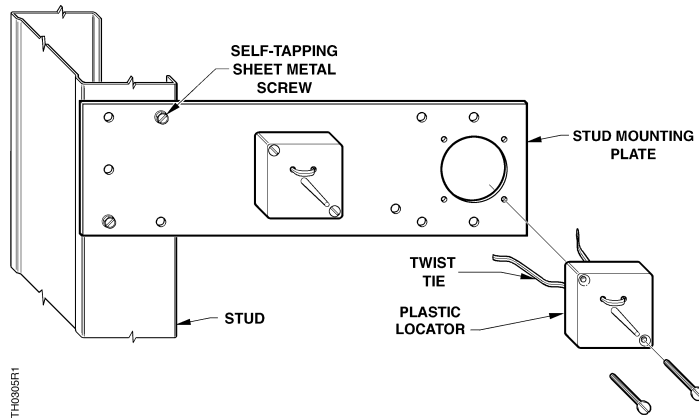

Figure 1. Non-conduit Rough-in Kit (with Stud Mounting Plate).
1. Attach the stud mounting plate to the stud. See Figure 1. You can attach the mounting plate to either side of a metal or wood stud.
- b. Attach the mounting plate to the stud with locally obtained self-tapping sheet metal screws. See Figure 1.
Attach the plate with locally obtained self-tapping sheet metal screws. See Figure 1.
3. Fasten the cable(s) to the locator(s) with the twist tie(s) provided. See Figure 1.